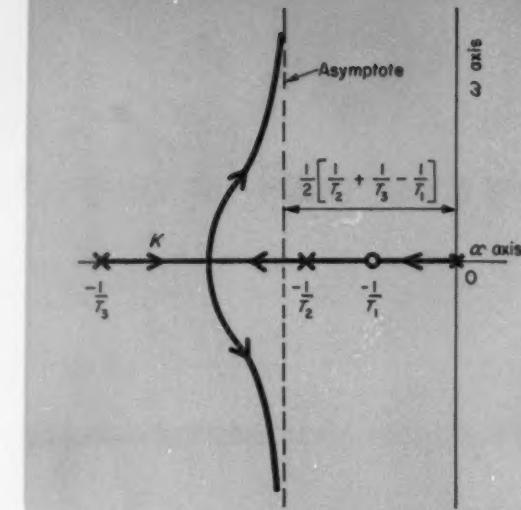

Fig. 12—Root locus for system of Equation 29, showing location of branches of locus, asymptotes, and break-away from real axis.
like C/s^q , where $q = n' - m'$, so that the asymptotes to the loci make angles $(180 + k 360)/q$ deg with the positive real axis. In Fig. 111 the loci belong to a system having $q = 3$. For the system of Equation 29, for large s , $Y_o(s) \approx KT_1/T_2 T_3 s^2$ so that $q = 2$ and the asymptote angles are ± 90 deg, Fig. 12.
Thus for the system of Equation 29, Fig. 12,
7. On real axis, loci lie only in sections to the left of an odd number of open-loop poles and zeros. This condition is also illustrated in Fig. 12 which shows the root-locus for the system of Equation 29.